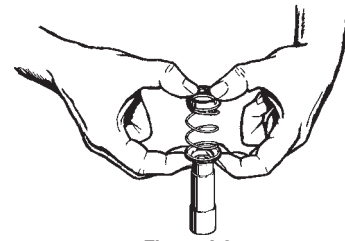

Figure 4-3
8. Remove the rotating element from the sleeve. Refer to Figure 4-3. The element normally adheres tightly to the sleeve and some force may be necessary to remove it. This is common and if care is taken, the element can be reassembled and reused. **It is recommended that a new rotating element be used for reassembly.** **DO NOT** attempt to remove the seal using a screwdriver or other sharp object.